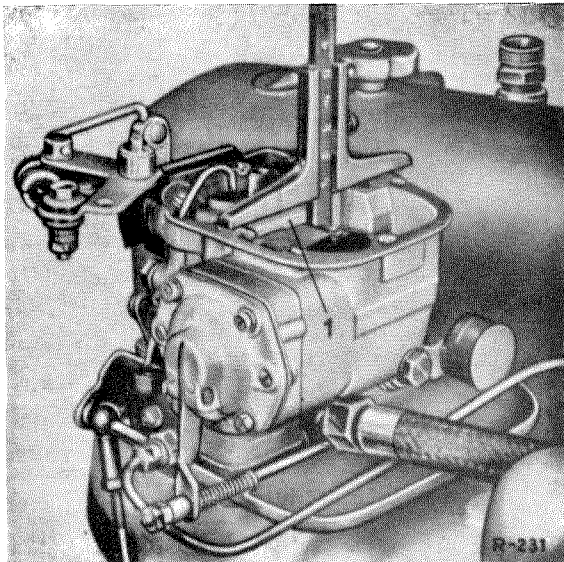

Fig. 01—3/35
5. Measure the fuel level with the aid of a depth gage inserted at the separating partition of the float chamber, the measured distance being between the upper face of the carburetor housing and the surface of the fuel (see Fig. 01—3/35).